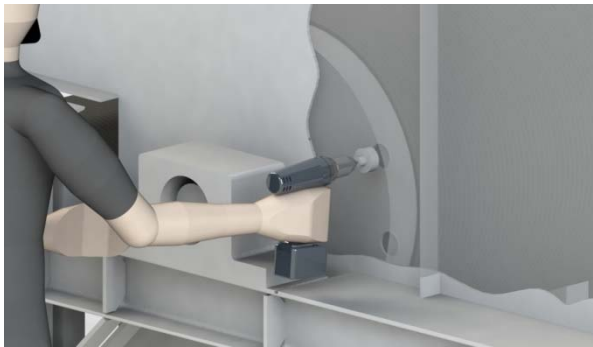

Figure 4
2. Drill the holes for the tensioning rope ducts (see Figure 4).